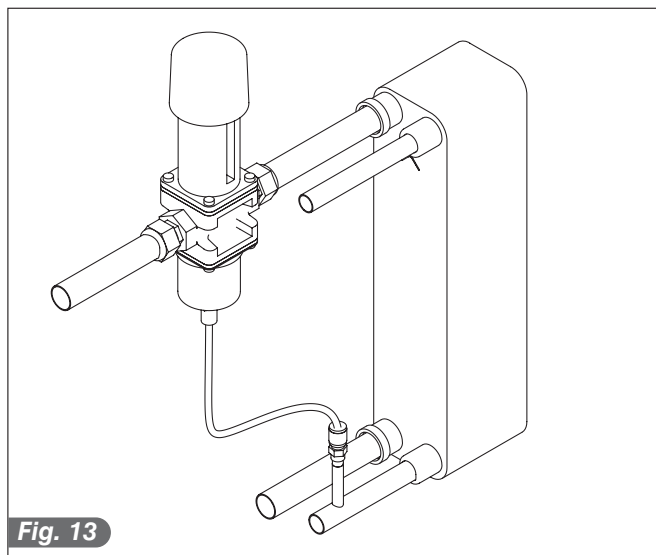

Fig. 13
- On inspection (mains water), with the machine at a standstill and water network ready, check that the condenser drain pipe does not allow water to escape. If this is not case, regulate the pressure valve until the leak stops (Fig.13).